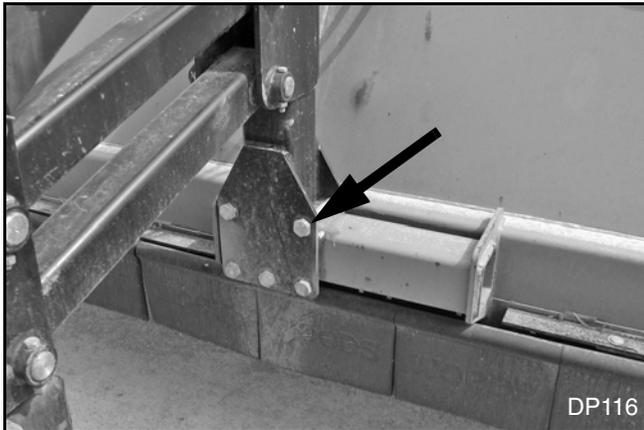

Figure 37. Positioning Wheel Assembly
8. Slide assembly along the frame tube to new position (see Figure 37).